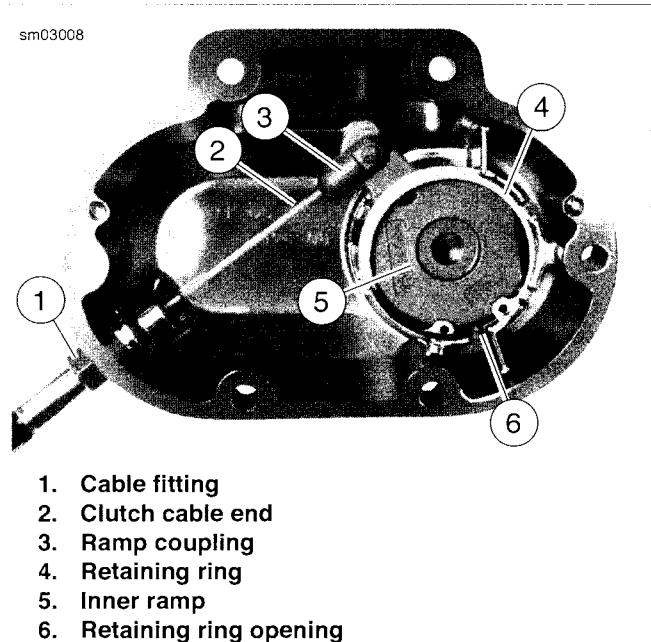

Figure 6-4. Clutch Cable Connection
6. See Figure 6-4. Remove retaining ring (4). Lift inner ramp (5) and ramp coupling (3) out of clutch release cover. Disconnect clutch cable end (2) from the ball and ramp coupling.
1. See Figure 6-4. Apply a drop of Loctite Threadlocker 243 (blue) to clutch cable fitting and screw fitting into clutch release cover. Do not tighten at this time.
See Figure 6-4. Retaining ring opening must be centered above the break in the ribbing at bottom of the clutch release cover.